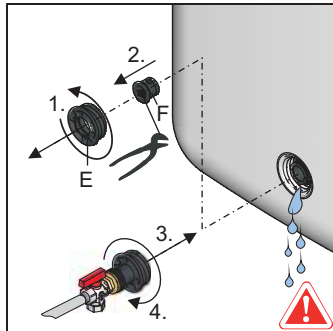

Fig. 5-4 Screwing the KFE filling connection into the filling and emptying fitting
- At the filling and emptying fitting, unscrew the threaded piece (figure 5-4, item F) and remove the sealing plug (figure 5-4, item F) **and immediately screw** the pre-assembled threaded insert with the **KFE filling connection** back into the filling and emptying fitting (figure 5-4).